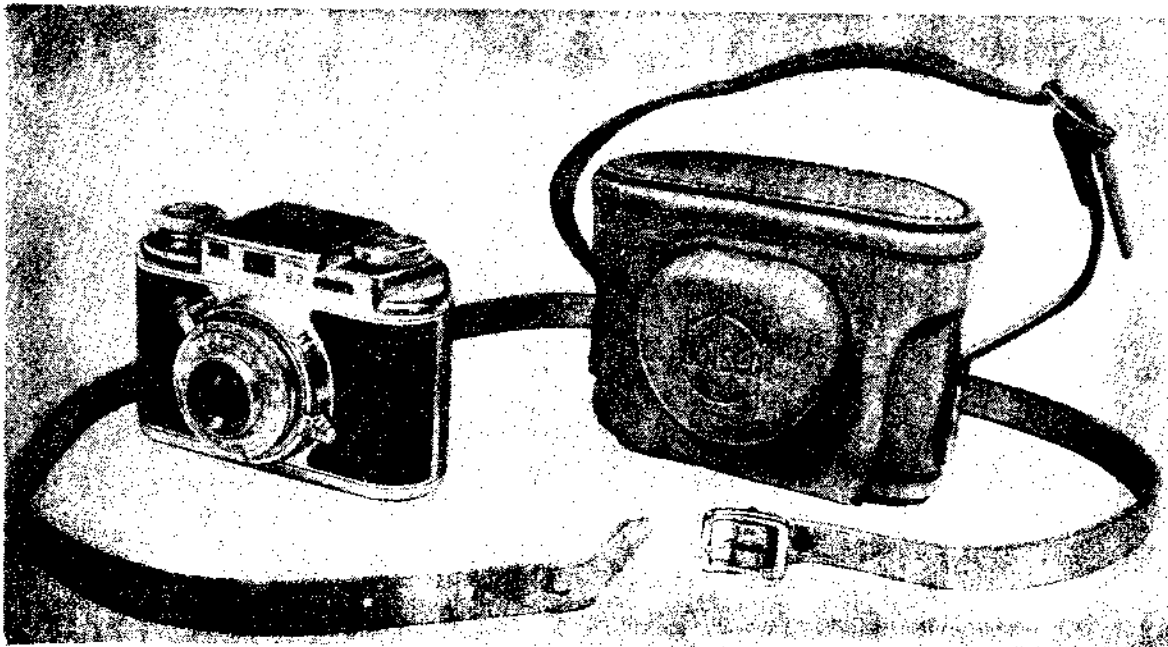

Figure 1-1. Camera, Ground, 35 Millimeter, Bolsey Model B2
1-6. For general characteristics and performance data, see figure 1-1 and table I.
1-8. CASE AND STRAP ASSEMBLY. The case and strap assembly (figure 1-1) is made of leather and is lined on the inside with velvet. The case front assembly (3, figure 4-1) is secured to the case body by means of snap fasteners, three of which are located at the bottom and one at the back of the case body assembly. The case body assembly (1) is secured to the camera assembly by means of the case screw (2) which threads into the camera body through the bottom of the case body assembly. A short strap is riveted to the sides of the case body assembly, and serves as a hand carrying strap. When the long strap assembly (4) is attached to the short strap by means of the buckles, the camera case may be carried on the shoulder. The inside surface of the strap assembly (4) is ruled in 1/16 of an inch to a length of 24 inches, and serves as a means of measuring a distance of two feet from the surface of the lens in order to check the operation of the range finder in case the camera was subjected to a severe shock.